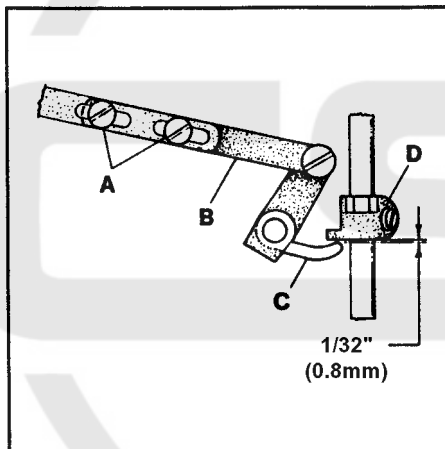

FIG. 22
Replace the presser spring and the presser bar regulating screw. Loosen screws (A, Fig. 22) in lifter lever link assembly (B) and position lever (C) so there is $1/32"$ (0.8mm) clearance between it and presser bar guide (D) when the feed dogs are below the throat plate.
Make sure the $1/32$ " (0.8mm) clearance between the presser bar lifter lever and presser bar guide has been maintained. Refer to Fig. 22 if readjustment is necessary.